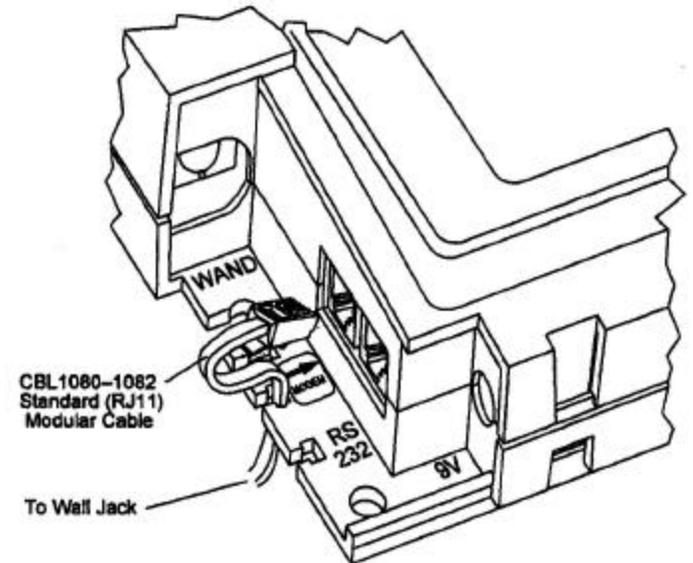

Figure 3: Internal Modem Communication
1. Install the terminal per the diagram shown in Figure 3.